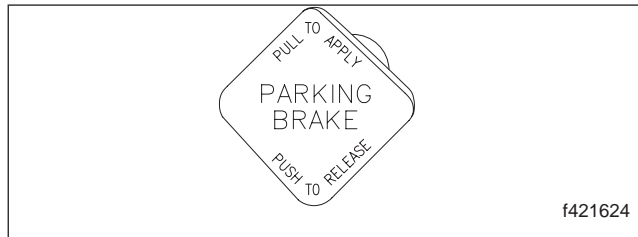

Fig. 9.7, Parking Brake Valve Knob
- 39.1 Release the parking brakes on the vehicle by pushing in the parking brake control valve knob. See **Fig. 9.7**. Check the air governor cut-in and cut-out pressures. Run the engine at fast idle. The air governor should cut out the air compressor at approximately 125 psi (862 kPa). With the engine idling, make a series of foot valve applications. The air governor should cut in the air compressor at approximately 95 psi (655 kPa). If the air governor does not cut in and out as described above, it must be adjusted to these specifications. If the air governor cannot be adjusted or repaired, replace it before operating the vehicle.